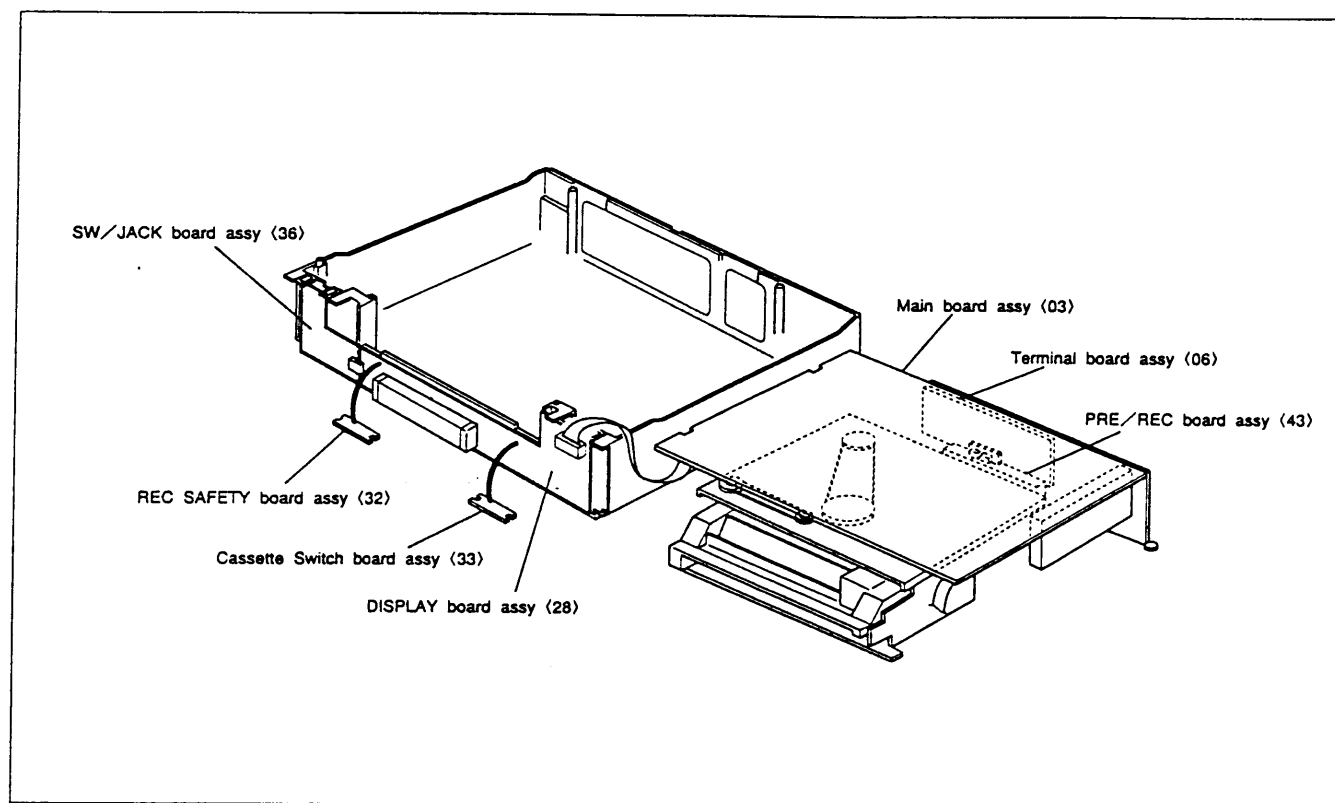

Fig. 1-5-3
- (5) Turn over the Mechanism assy and Main board assy then connect CN1 of the DISPLAY board assy.
- (6) Carry out checks & repairs as necessary as shown in Fig.1-5-3.